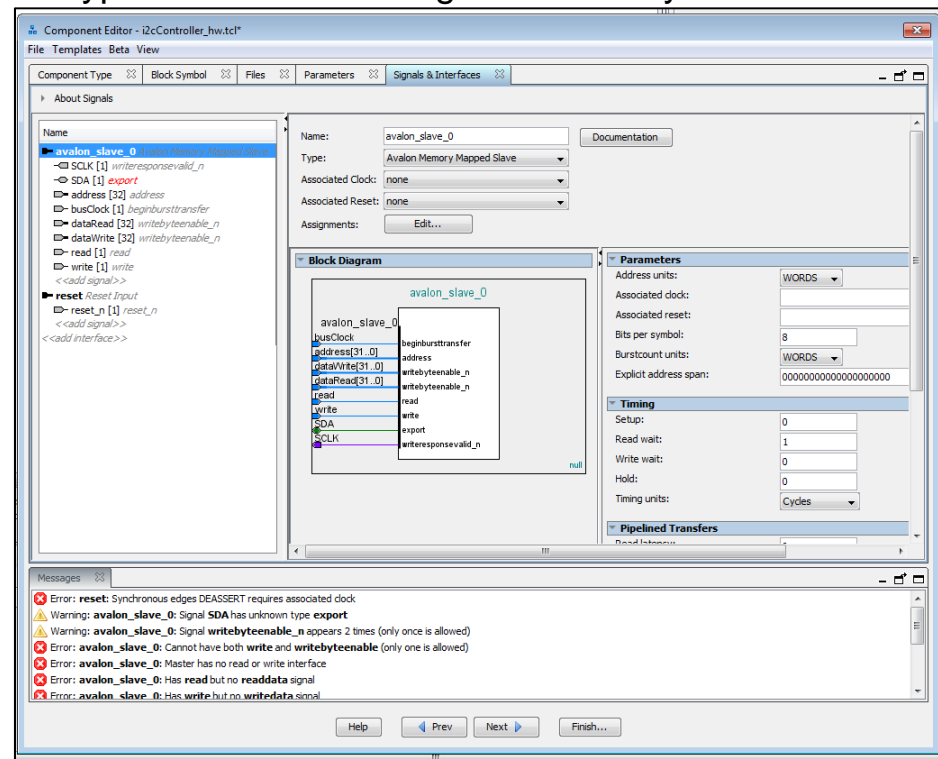

Figure 18 – QSYS Default Signal Mapping
- Clicking on the 'Analyze Synthesis Files' button will allow QSYS to generate the block symbol as well as the data on the 'Signals & Interfaces' tab (Figure 18).